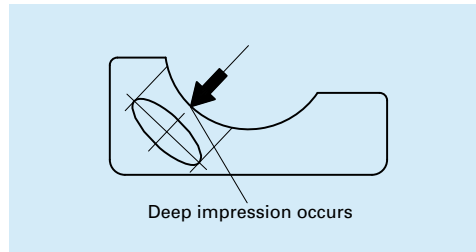

Fig. 5 Contact pressure limit axial load
2. Contact pressure limit axial load (Fig. 5)